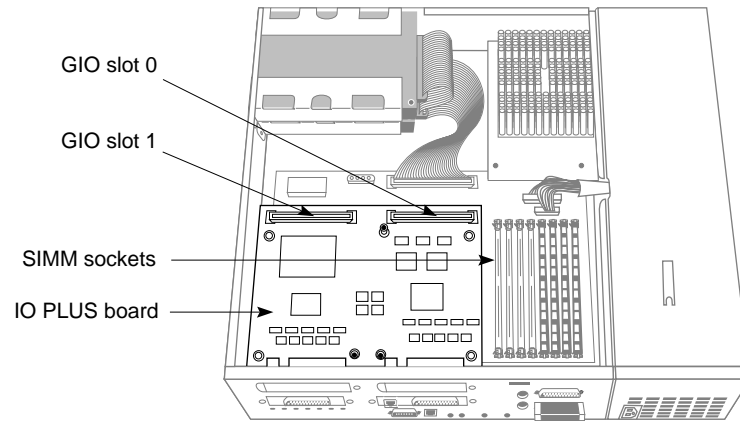

Figure 5-1 Locating the GIO Board Connectors (IOPLUS Board Shown)
Currently, direct memory access (DMA) is supported for GIO slot 0. (See Figure 5-1 on page 79 to determine which GIO slot is 0.) All Silicon Graphics GIO options use DMA, and should therefore be installed on slot 0. GIO slot 1 only supports option boards that use programmed I/O. The only exceptions to this rule are the GIO32 SCSI and Ethernet E++ boards (any boards that use the HPC1.5 ASIC). Table 5-1 describes these dependencies.
5. Move the system or position yourself so that you are facing the rear of the system, as shown in Figure 5-1. You'll connect the GIO option board to the IOPLUS board. You can install the GIO option board in either of the two available slots. However, before installing the board, read "GIO Slot Dependencies" on page 77.